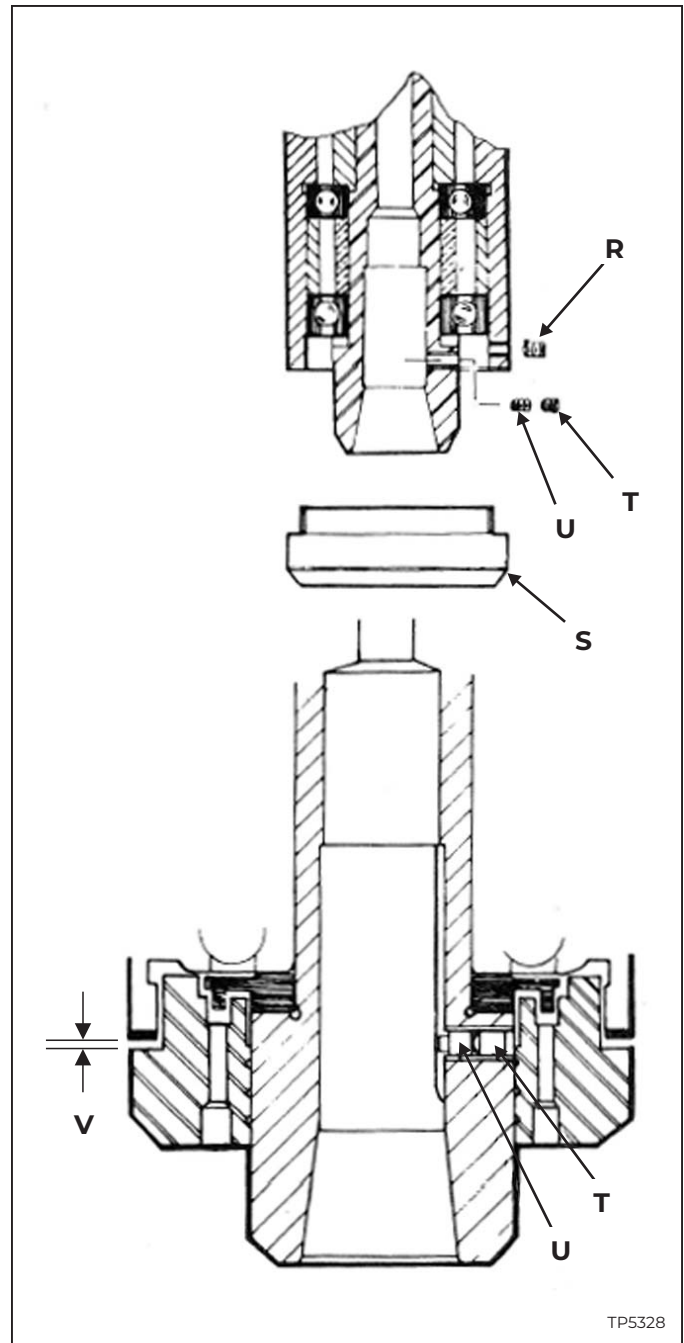

Figure 3.9 - Collet Aligning Screw Replacement
1. Use felt pen, mark reference line on quill and nose cap "S", Figure 3.9.